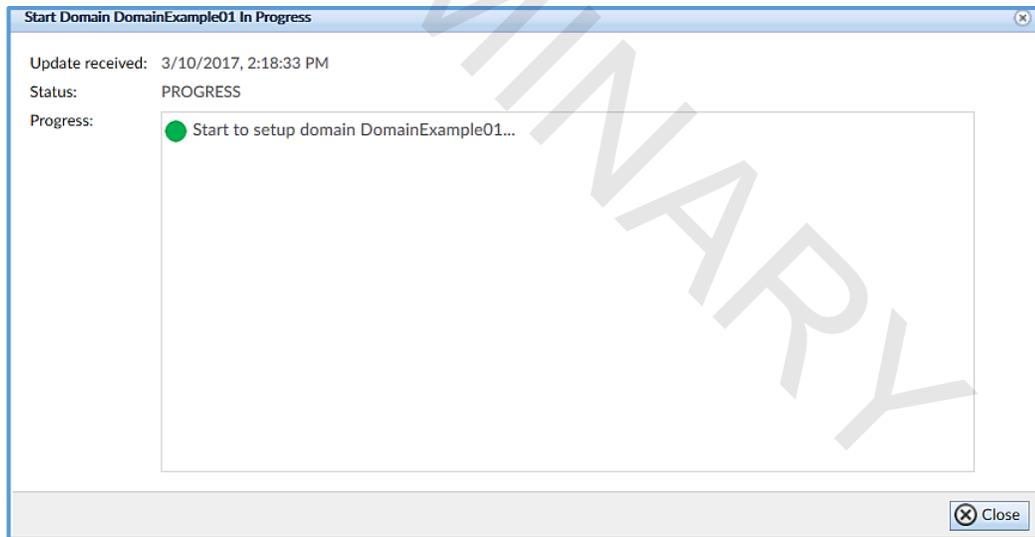

Figure 27. Start Domain in Progress window.
- Click the Domain entry (**DomainExample01**) from the drop-down combo box. The Start Domain in Progress window appears. The window closes once the domain has been activated (Figure 27).